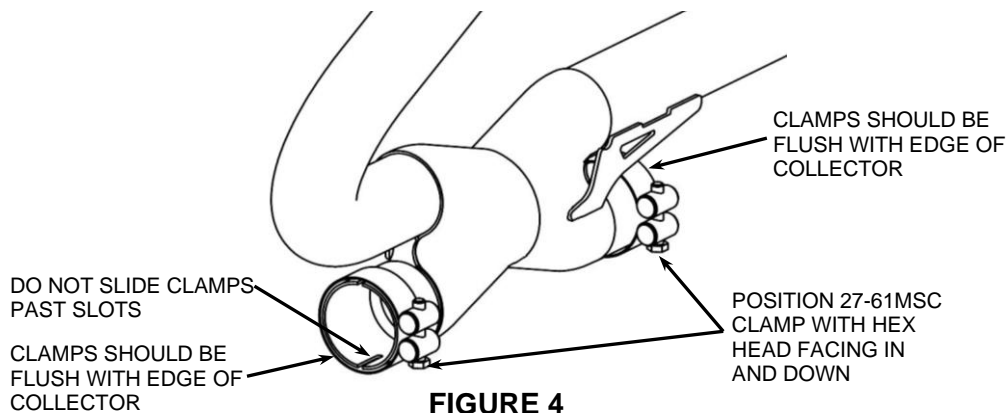

FIGURE 4
9. Position (2) of the supplied #27-61 MSC muffler clamps onto the rear headpipe collector assembly inlet and outlet. The hex head of both clamps should be inward and down. See **FIGURE 4**. (NOTE: The clamps should be flush with the end of the inlet and outlet when tightened. See **FIGURE 4**. If the clamps are slid past the slots on the inlet and outlet the clamps will not tighten properly).
19. Next fully tighten the (2) 27-61 MSC clamps on the rear headpipe collector assembly. (NOTE: The clamps should be flush with the end of the crossover assembly inlets when tightened. See **FIGURES 4 & 5**. If the clamps are slid past the slots on the crossover assembly inlet the clamps will not tighten properly).